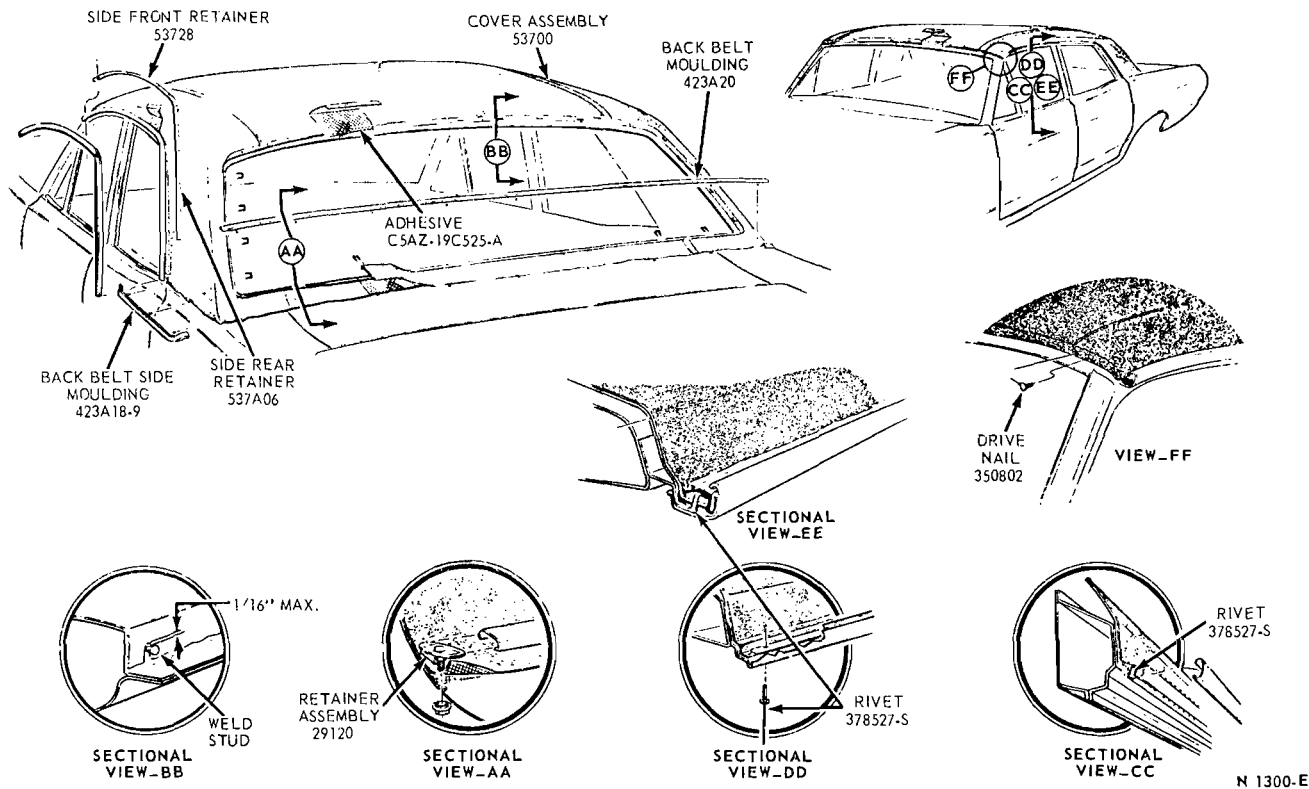

FIG. 22—Typical Roof Outside Cover Installation—Mercury Intermediate, Falcon, Fairlane
3. Remove the package tray panel and loosen the headlining in the quarter area sufficiently to permit access to the side belt moulding retainer nuts (Fig. 22).
It is recommended that drive nails be substituted for the staples shown in Fig. 22.